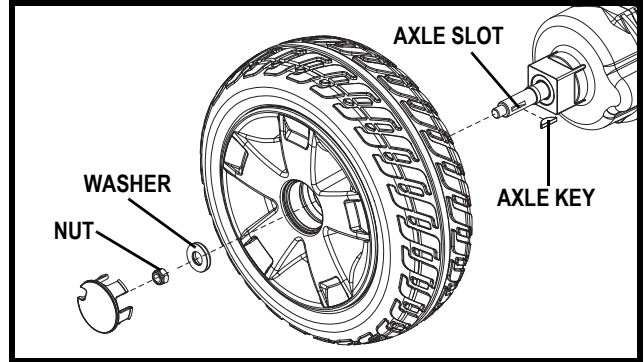

Figure 28. Solid Tyre Wheel Removal
3. Remove the drive wheel nut and washer from the axle. See figure 28.